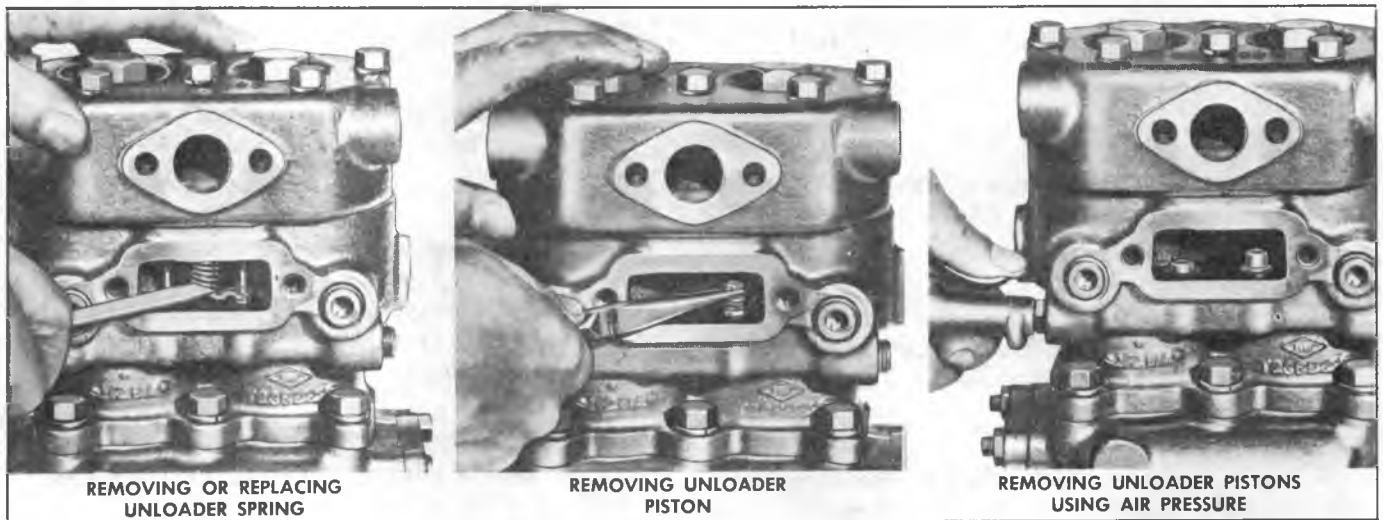

Fig. 7G--Removing Unloader Components
3. Lift each plunger guide, then remove guide and plunger. Lift pistons out of bores. If piston is not easily removed, use shop air pressure as shown in figure 7G.